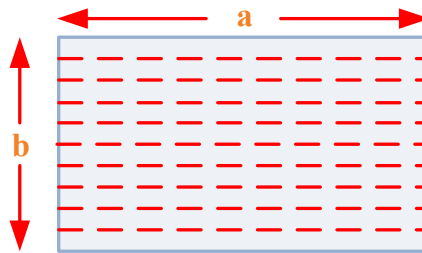

Figure 1
1) **The fluid is flowing through a rectangular duct as shown in Figure 1, then**